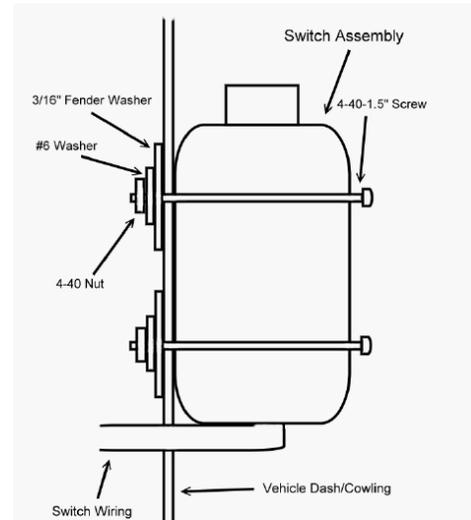

**Figure 5** Assemble Winch to the Mount
2. Assemble your fairlead to the mount plate using the hardware that was supplied with your fairlead. "Figure 5"
3. Assemble your winch to the mounting plate using our supplied Flat Head Screw in the counter sunk hole and the hardware supplied with your winch in the other bolting location. "Figure 5"